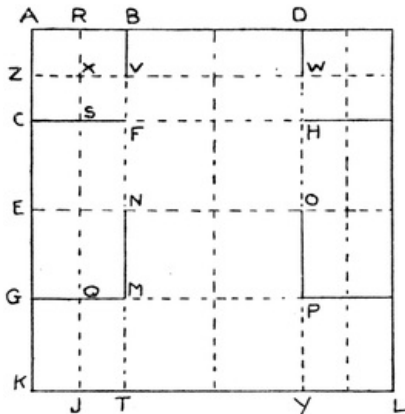
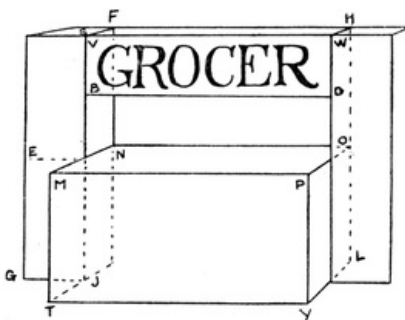
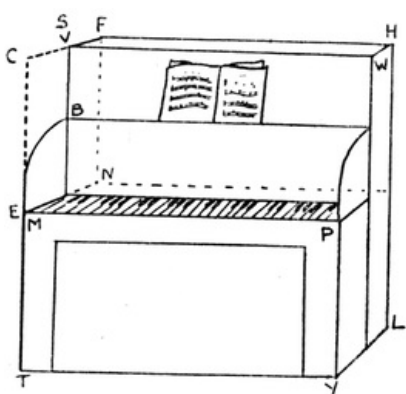

FIG. 35
FIG. 36
FIG. 37
**A Shop or Stall.** This will hold together without the use of gum. Fold and cut as in Fig. 35. Fold together so that square E N G M covers square G M K T; the same the other side. Bend back C S G Q along S Q to form side (Fig. 36); the same the other side. Fold B F D H along F H for roof, fold B V D W down as in Fig. 36; this portion should have name of shop written on it. Fold A B F C along R S, so that A C coincides with B F. Fold down R B X V so that top of C S G Q lies between R B X V and A R X Z; the same the other side; this folding keeps the shop together. Gum can be used if greater strength is desired. From paper the children can cut materials to furnish their stall. From a similar square a piano can be made as in Fig. 37. A piece of paper must be gumed to V B W D to close up the hollow; the sides S C G Q must not be bent back but cut as in Fig. 37 to represent the sides of a piano.